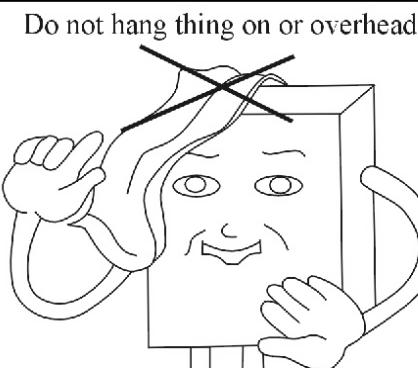

Fig.17
- Do not place towels or clothes on top of the water heater.(Fig. 17)